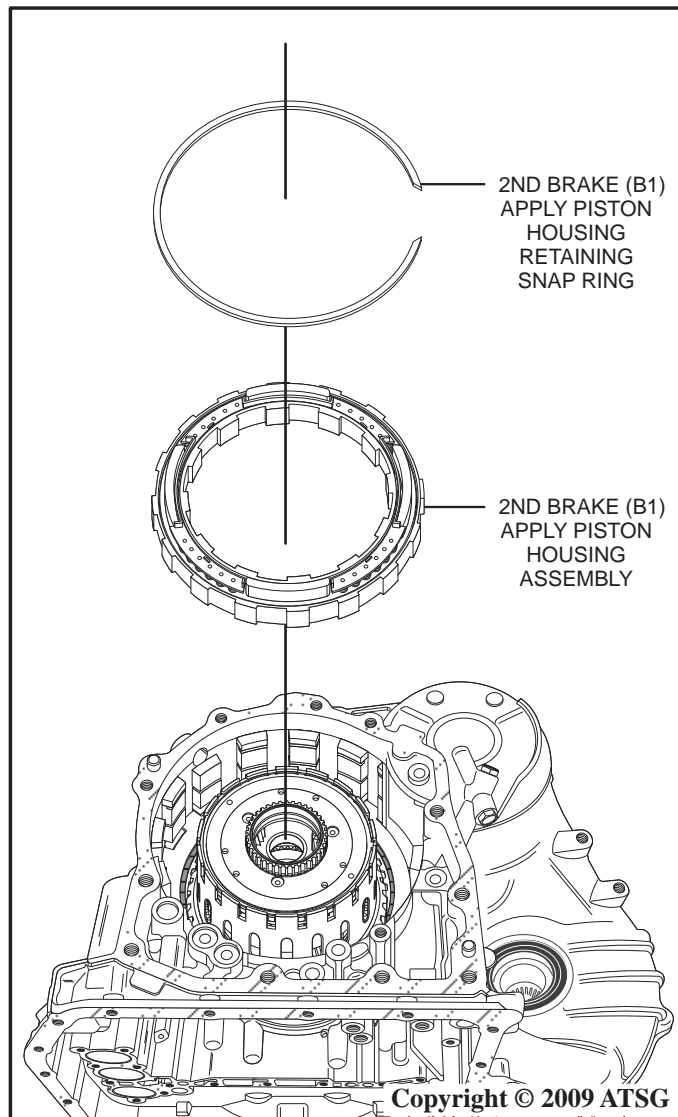

Figure 50
81. Using a screwdriver, remove the 2nd brake (B1) apply piston housing retaining snap ring as shown in figure 50.
82. Remove the 2nd brake (B1) apply piston housing assembly by lifting straight up as shown in Figure 50.